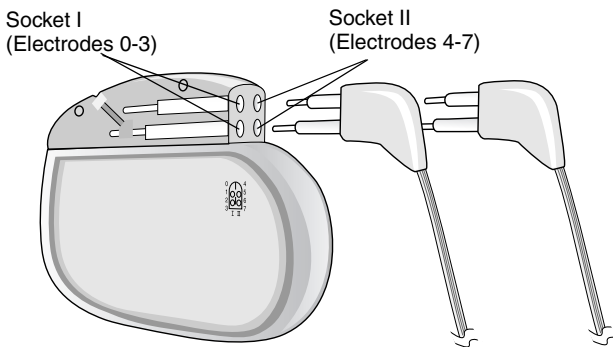

Figure 14. Insert extension connector pins fully into neurostimulator.
7. Insert the extension connector pins for electrodes 0–3 (or plug labeled 0, 1, 2, 3) fully into Socket I (Figure 14).
8. Insert the extension connector pins for electrodes 4–7 (or plug labeled 4, 5, 6, 7) fully into Socket II (Figure 14).